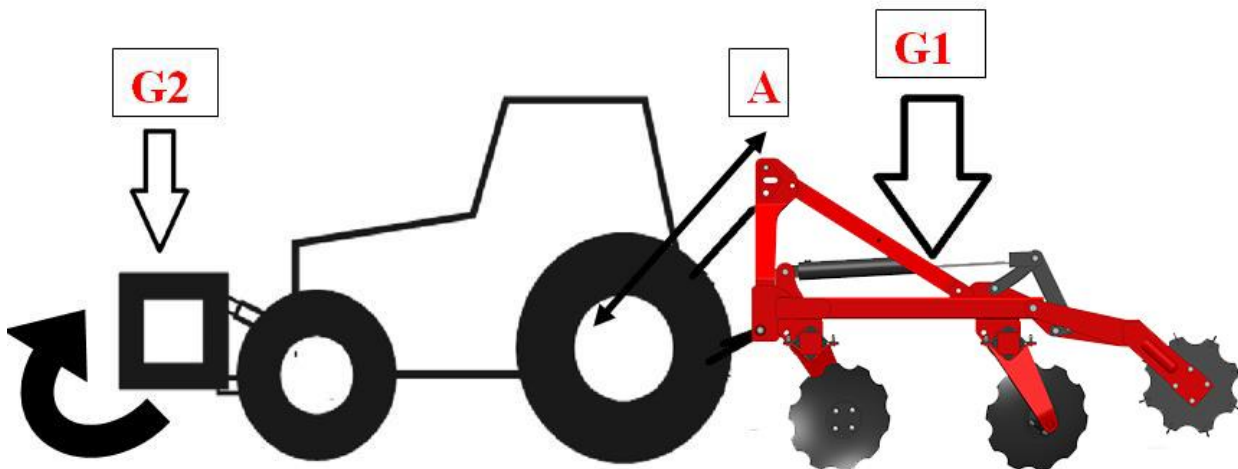

Figure 3
Tractor upper connecting rods direction must be towards about tractor transmission, machinery upper connecting alternative holes must be used if (A) direction is not suitable. FIGURE 3